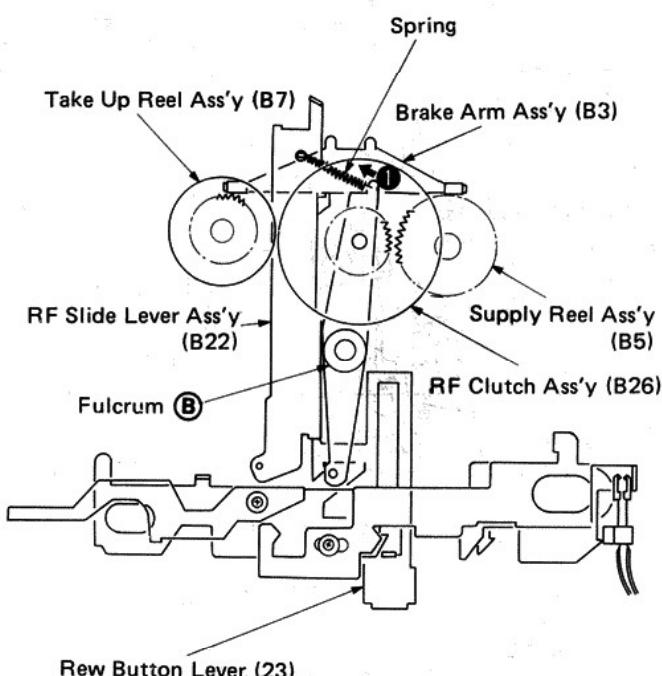

Fig. 22
- Fig. 22 shows the conditions of the REW-related mechanism in the STOP mode.
- The RF clutch assembly (B26) is pulled by the spring in direction ① based on the fulcrum ②.
- On the other hand the brake arm assembly (B3) also keeps contact with the take-up reel assembly (B7) and the supply reel assembly (B5), and is in the braked condition. (Fig. 22)